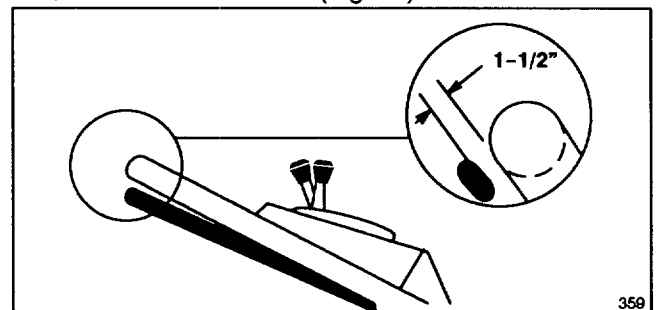

Figure 20
2. CHECK ADJUSTMENT – Adjustment is correct when rear wheels stop turning and control bar is about 1-1/2 inches from handle (Fig. 20).